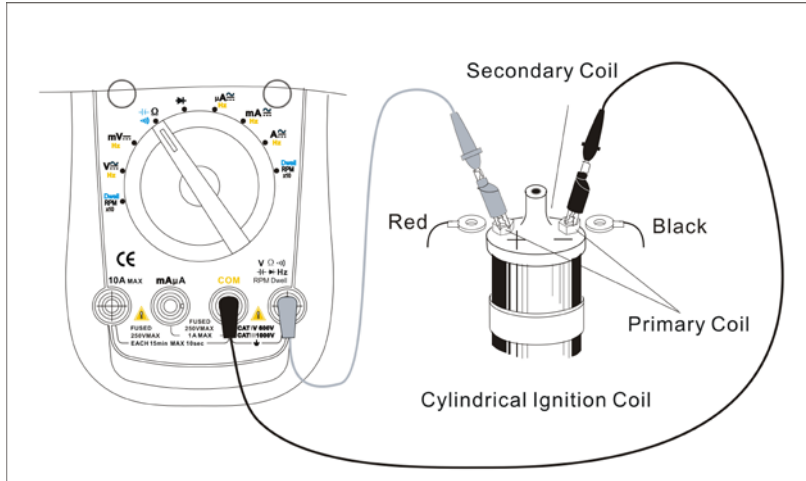

Figure 16
- (1) Before the operation, cool the engine and cut off the ignition coil.
- (2) Set the rotary switch to the  $\Omega$ . Insert the red test lead into the  $\Omega$  terminal and the black one into the **COM** terminal. Test the primary coil of the ignition coil.
- (3) Short circuit the red and black test lead probes. Their short circuit resistance should be less than  $0.5 \Omega$ . If it is more, check the test lead to see if it is loose or damaged. If it is damaged, replace it with a new one.
- (4) Connect the red test lead probe to the primary "+" pole of the ignition coil and the black one to the primary "-" pole of the coil. (see figure 16.) See the detailed positions in various kinds of automotive manuals.